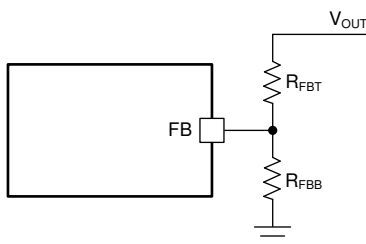

**Figure 8-1. SW Node and Inductor Current Waveforms in Continuous Conduction Mode (CCM)**
The following operating description of the LMR51430 refers to Section 8.2 and to the waveforms in Figure 8-1. The LMR51430 is a step-down synchronous buck converter with integrated high-side (HS) and low-side (LS) switches (synchronous rectifier). The LMR51430 supplies a regulated output voltage by turning on the high-side and low-side NMOS switches with controlled duty cycle. During the high-side switch on time, the SW pin voltage swings up to approximately  $V_{IN}$ , and the inductor current,  $i_L$ , increases with a linear slope of  $(V_{IN} - V_{OUT}) / L$ . When the high-side switch is turned off by the control logic, the low-side switch is turned on after an anti-shoot-through dead time. Inductor current discharges through the low-side switch with a slope of  $-V_{OUT} / L$ . The control parameter of a buck converter is defined as: